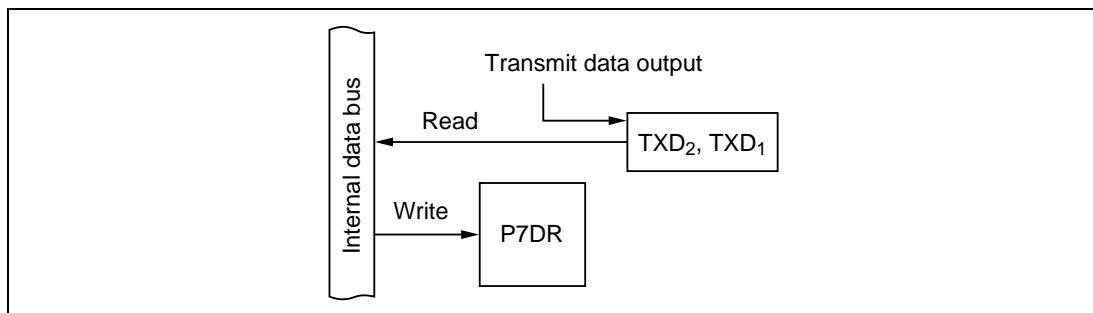

Figure 10-49 TXD₂ and TXD₁ Output (Modes 1 to 7)
(5) TXD₂ and TXD₁ Output (P7₄ and P7₂; Modes 1 to 7): Figure 10-49 shows a block diagram illustrating the TXD₂ and TXD₁ output function. Table 10-39 indicates register read/write data. When P7₄ and P7₂ are used for TXD₂ and TXD₁ output, the value written in P7DR is ignored, but P7DR can be read to monitor the levels at the TXD₂ and TXD₁ pins.